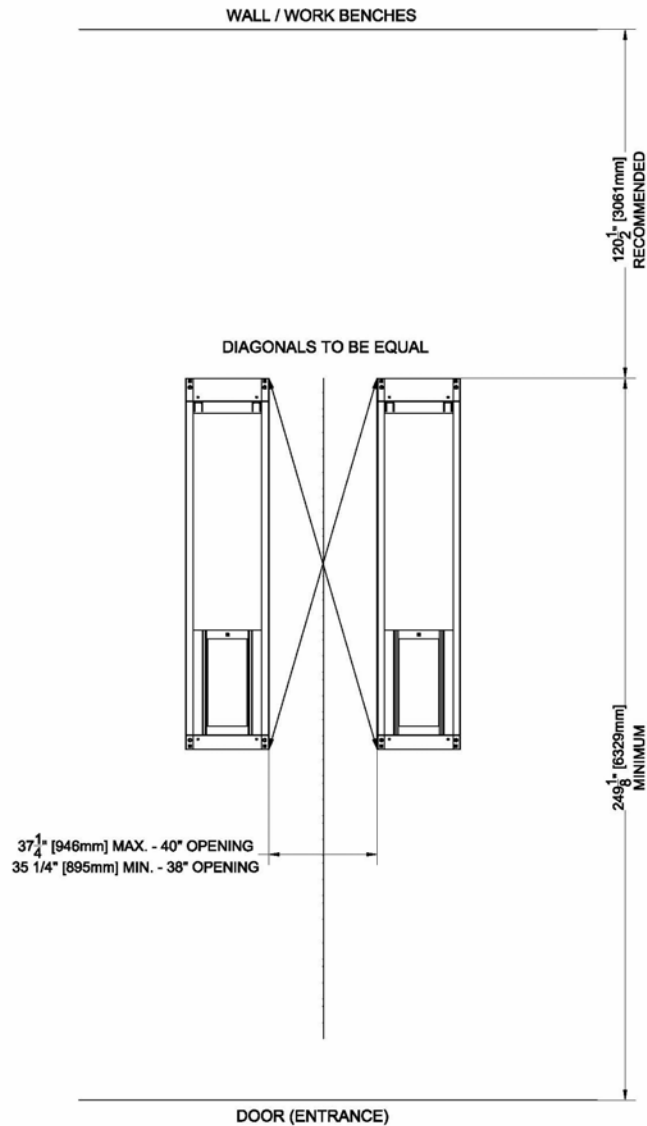
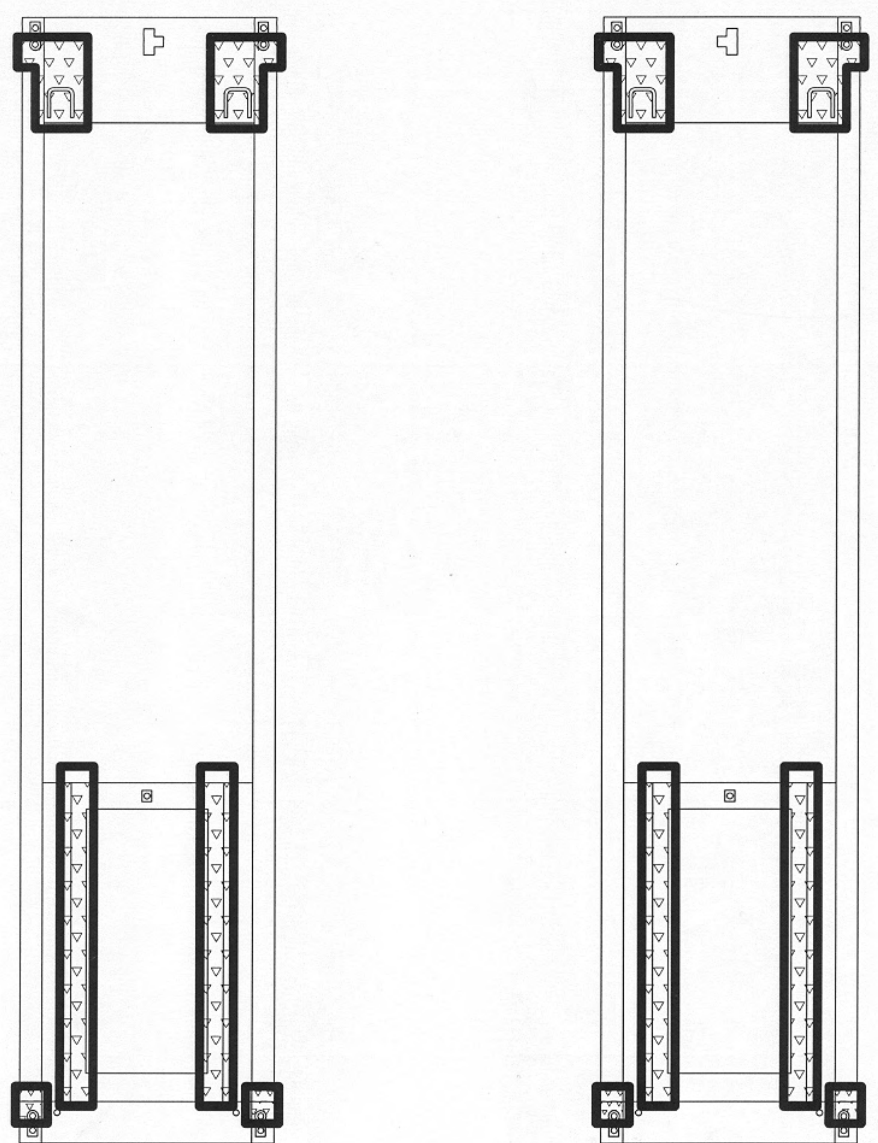

Figure 3 – Baseframe Locations
Figure 9 - Shimming
3. Measure and snap two (2) parallel chalk lines on either side the centerline for the inside edges of the baseframes. Refer to **Figure 3** for the dimensions necessary to provide the desired width between the two runways. A distance of 35 ¼" (895mm) will provide the standard width of 38" between the inside of the runways.
1. Press the up button and raise the lift to the fully extended operating position. Check the location of the baseframes compared to **Figure 3**, and make minor adjustments as required.
2. Level the baseframes using the 5/8" leveling bolts provided at each of the four (4) corners. A minimum gap of 1/2" under the baseframe is needed in all places for grouting.
3. Use shims provided to support under glide block area of baseframe and under front hinges. See **Figure 9**.